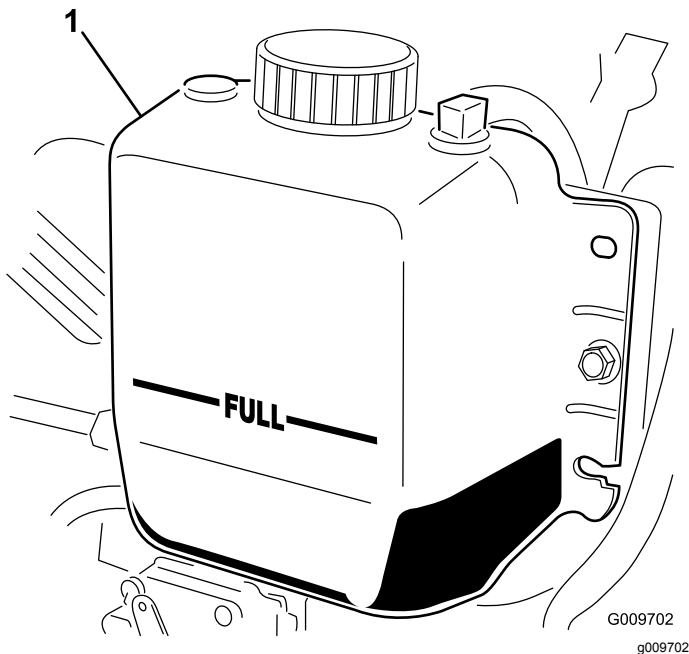

Figure 16
2. Check the coolant level in the radiator. The radiator should be filled to the top of the filler neck and the expansion tank filled to the FULL mark (Figure 16).